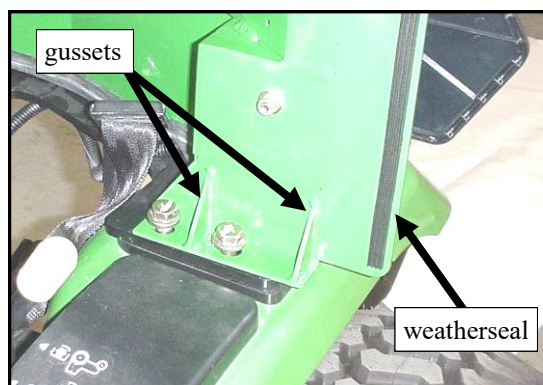

Fig. 3.1 View from left side of vehicle
**3.1** Install the rear leg oriented as shown in fig. 3.1 (with the gussets facing the front and the weatherseal towards the outside of the vehicle). Re-install the 2 original equipment bolts, but do not tighten. Repeat for opposite side.